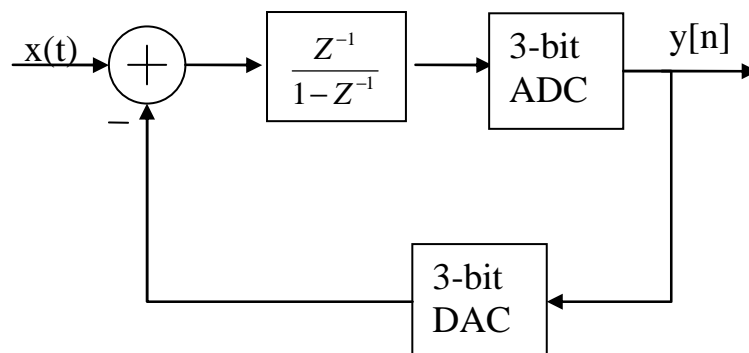

Figure 1: First-order Sigma-Delta modulator architecture.
The complete system to be built should be a working first-order Sigma-Delta modulator. The total system is shown in Figure 1. The main components to be designed are an integrator, a 3-bit flash-ADC, and a 3-bit DAC. The switched-cap integrators require an Operational amplifier (OP). A schematic of a suitable OP will be given to you in order to save some time. The digital filter that is needed after the Sigma-Delta modulator can be done in Matlab when doing chip measurements.